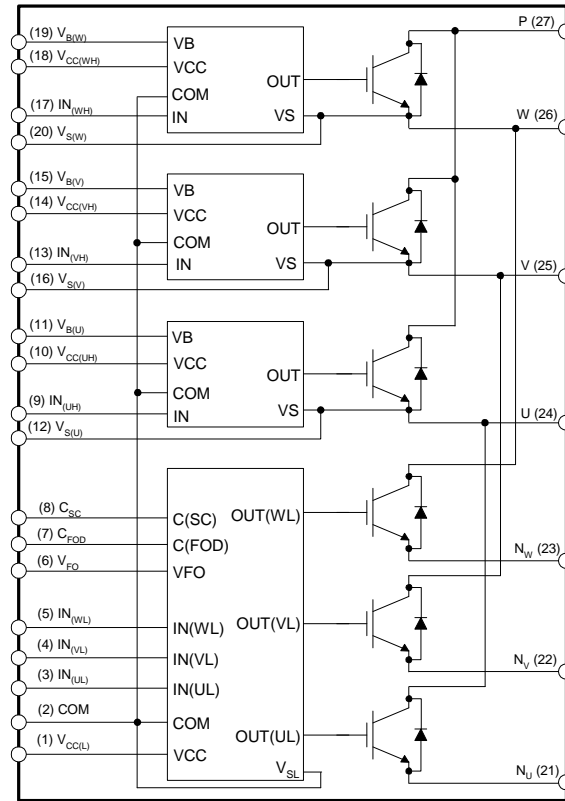

Figure 3. Internal Block Diagram
- 600 V - 25 A IGBT inverter for three-phase DC / AC power conversion (please refer to Figure 3)